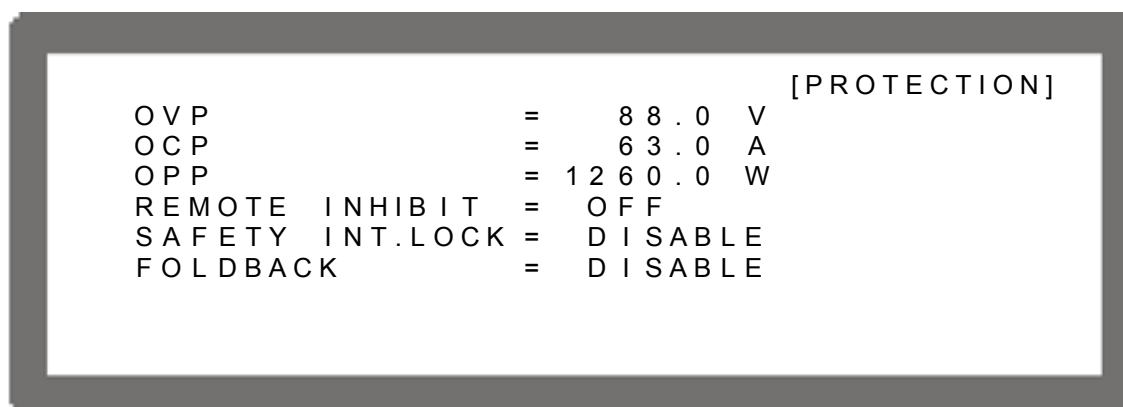

Figure 3-72
1. In Config Setup page, press "5" to show Figure 3-72.